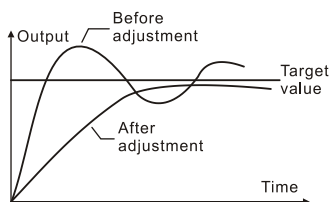

Figure 6-19 Suppress Output Exceeding of PID Control
- 6) Refer to the descriptions in Figure 6-19/6-20 for specific application.